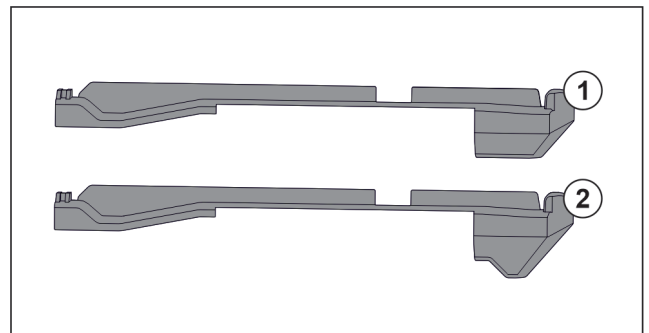

Fig. 27 Comparing attachments
There are two different attachments in the appliance. The attachment above the lowest drawer Fig. 27 (2) has a three-cornered edge. All other attachments Fig. 27 (1) have a straight edge.
- ▶ Fit attachment Fig. 27 (2) with the three-cornered edge above the lowest drawer.
- ▶ Fit attachment Fig. 27 (1) with straight edge in all other positions.